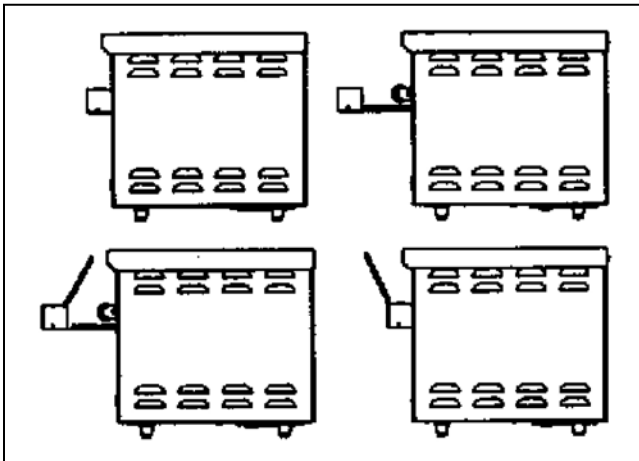

Figure 2
2. Position Wire Feeder - refer to Figure 2